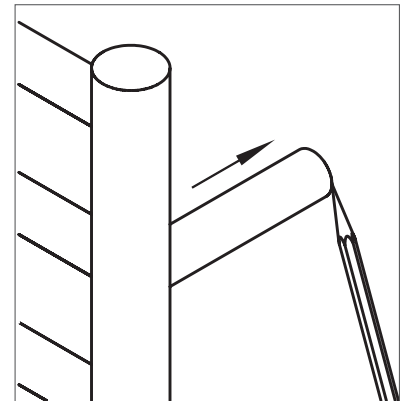

Fig 5.0
- Using a fine pencil, or by gently pressing the rail against the wall, mark the position of the remaining three rail legs. see Fig 5.0